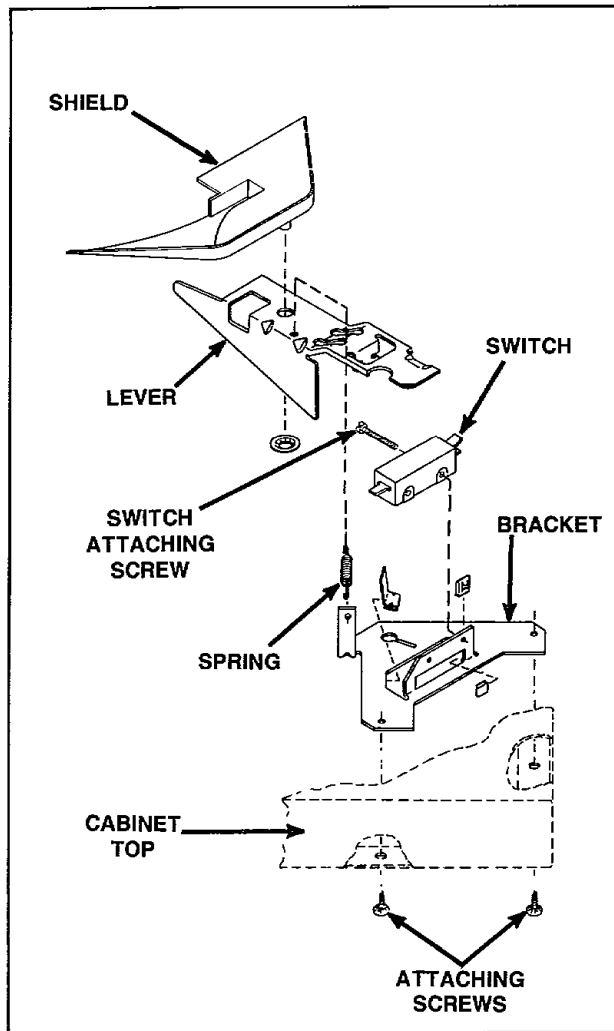

Figure 29
24. DOOR AND OUT-OF-BALANCE SWITCH AND BRACKET ASSEMBLY (Refer to Figure 29)